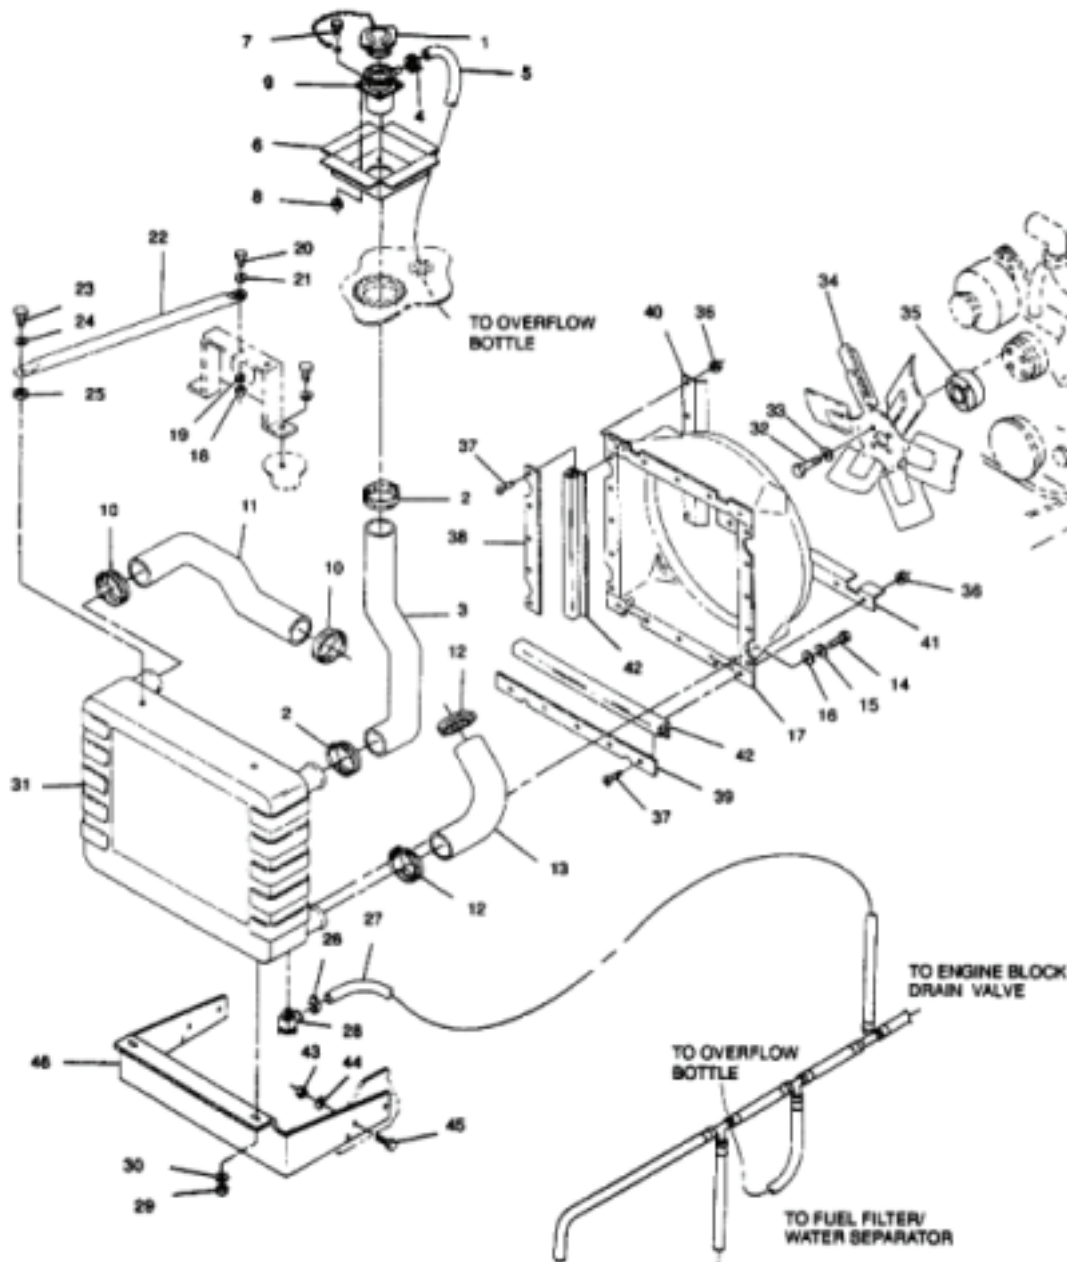

Figure 1. Coolant System.
2. Slowly remove radiator cap (Figure 1, Item 1).
7. Install radiator cap (1). Close engine access doors.
WP 0076, Figure 1, Item 1, 3 & 9**Equipment Condition**Grounded, Off & Operational